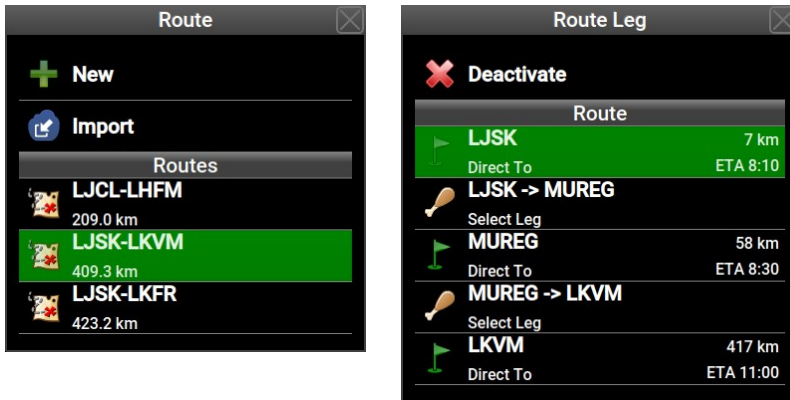

Figure 31: Route selection and activation window (left) and route manipulation window (right).
- When there is no active route, Nesis opens the route selection/activation window. See Figure 31 left. The window allows creation of a route, importing a route from USB stick or selection of one of existing routes from a list.
- However, if some route is already active, Nesis opens a route manipulation window. See Figure 31 right.
With no active route a window opens, like shown on Figure 31 left. Routes are sorted alphabetically. Route name is typically defined by a takeoff - landing airfield pair.
- Select the *New* option from Figure 31 left.
- Insert the stick into Nesis and select the *Import* command. See Figure 31 left.
When the *Route* command is issued and some route is already active, a different window appears. See Figure 31 right on page 50.